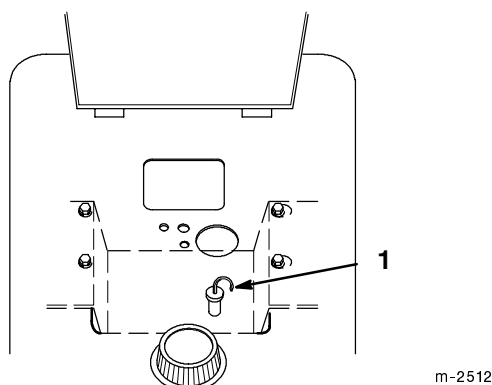

Figure 34
3. Clean around the transaxle dipstick (Fig. 34) so dirt cannot fall into the filler hole and damage the transaxle.
4. Pull out the dipstick and wipe the metal end clean (Fig. 34).
5. Slide the dipstick fully into the filler tube (Fig. 20). Pull the dipstick out and look at the metal end. When transaxle is cold oil should be at the “Full” line on the dipstick (Fig. 34).